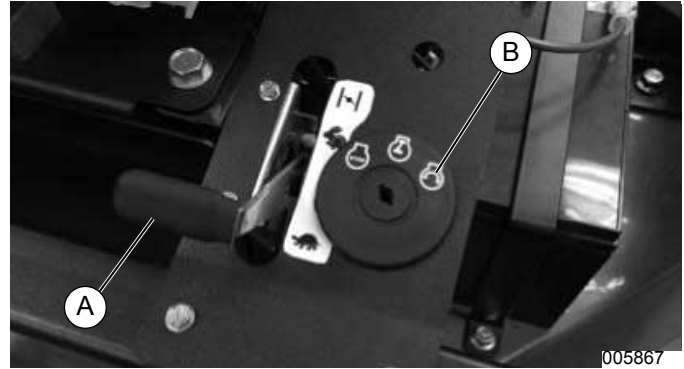

Figure 3-4. Throttle Control Lever
2. See Figure 3-4. Move throttle (A) to CHOKE position.